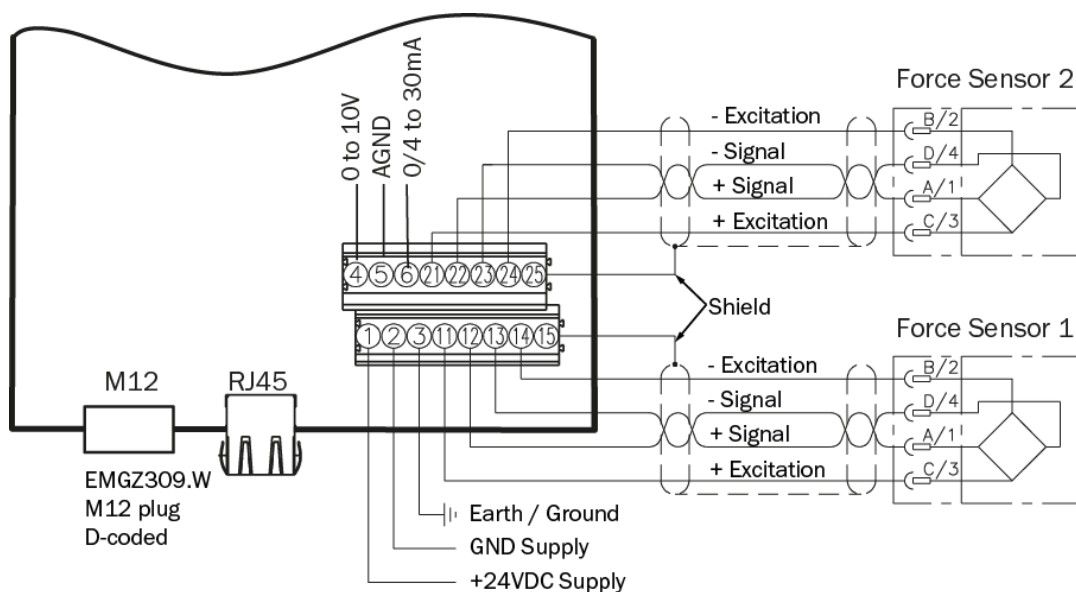

Fig. 4: Wiring Diagram EMGZ309.EIP
2. Wire the Force Measuring Sensor(s) (ref. to Fig. 4)
1. Connect the first force sensor (see **Fig. 4 Wiring Diagram EMGZ309**)